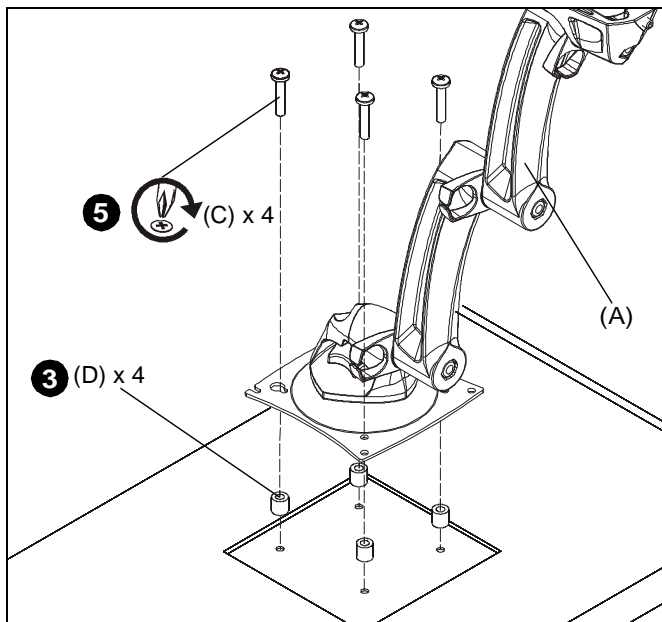

Figure 3
3. Place the four spacers (D) over each of the mount holes on the back of the display. (See Figure 3)
4. Pick up and orient the mount (A) so that the mounting holes are aligned with the holes in the spacers; rotate the bracket as required. (See Figure 3)
5. Using Phillips screwdriver, install four M4x25mm screws (C) through the mounting holes, through the spacers and into the display. (See Figure 3)